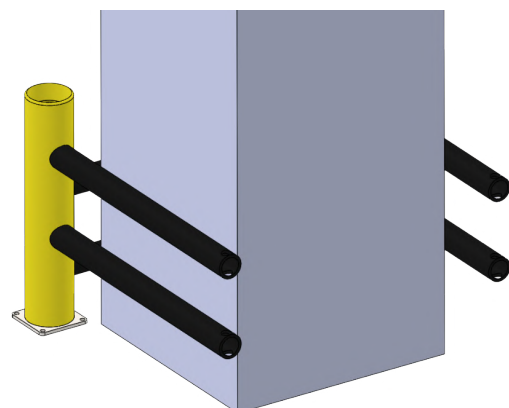

Figure 4. Barrier placement at the further installation place
4. Before commencing installation of the last section, the structure assembled at this stage must be put in the place of future installation around the protected column (Fig. 4)